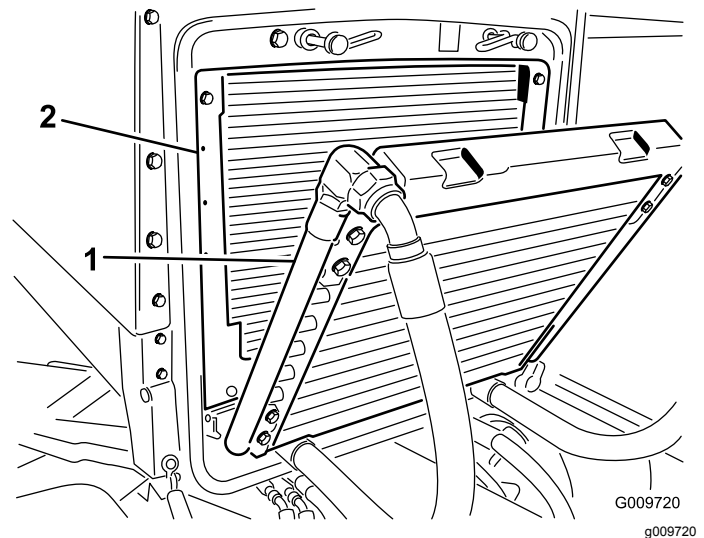

**Figure 56**
2. Rotate the latches (Figure 56) securing the oil cooler to the frame.